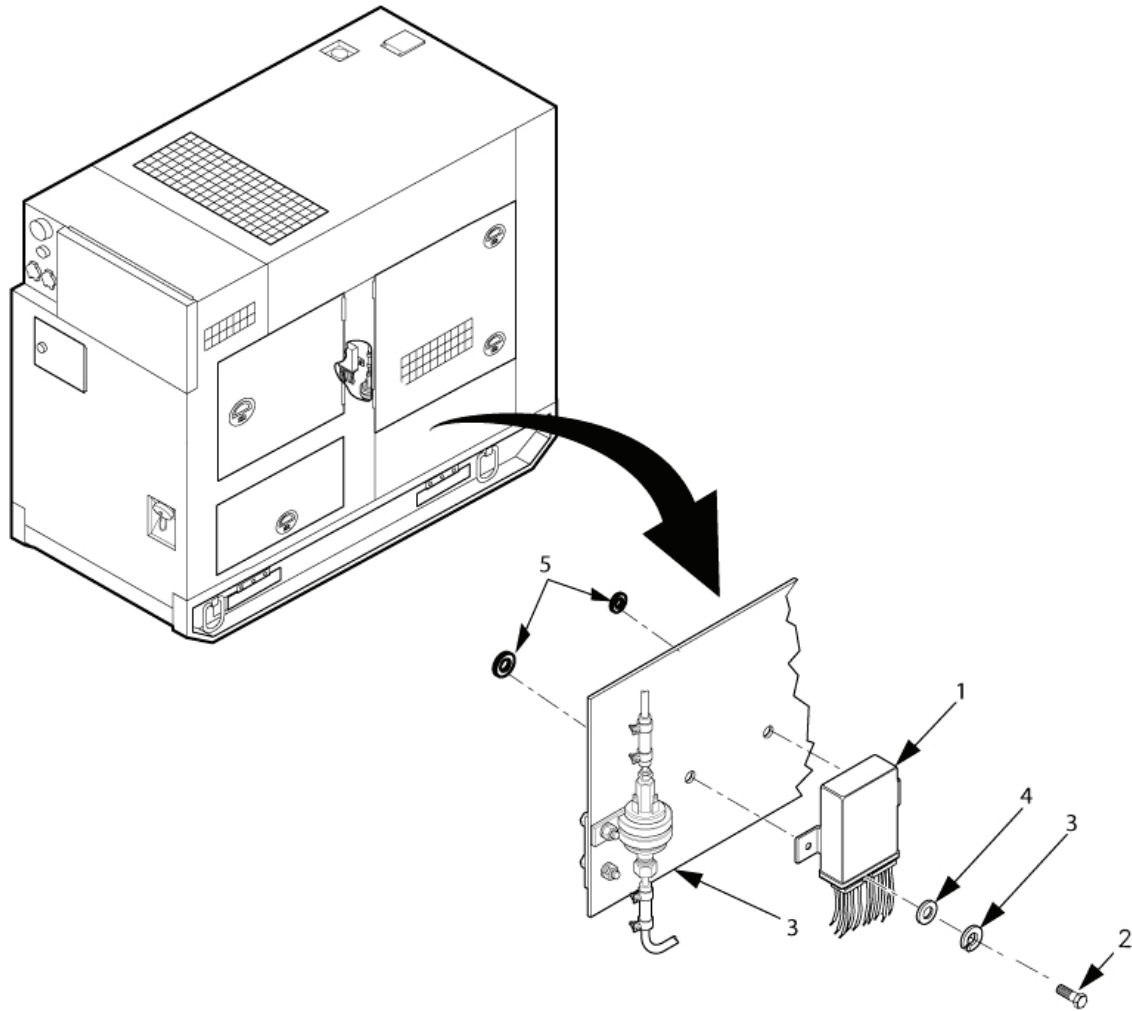

Figure 6-26. Control Unit Removal.
- g. Remove two nuts (5, Figure 6-26), bolts (2), flat washers (3), lock washers (4) and control unit (1) from engine access side of output box. Replace existing hardware.